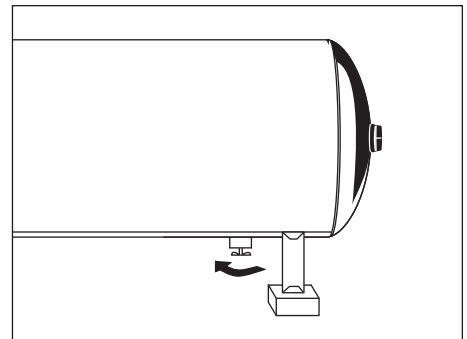

Figure 8 - Manual Tank Drain
- a. Open drain cock on the tank and run the compressor unloaded for 60 minutes (See Figure 8).